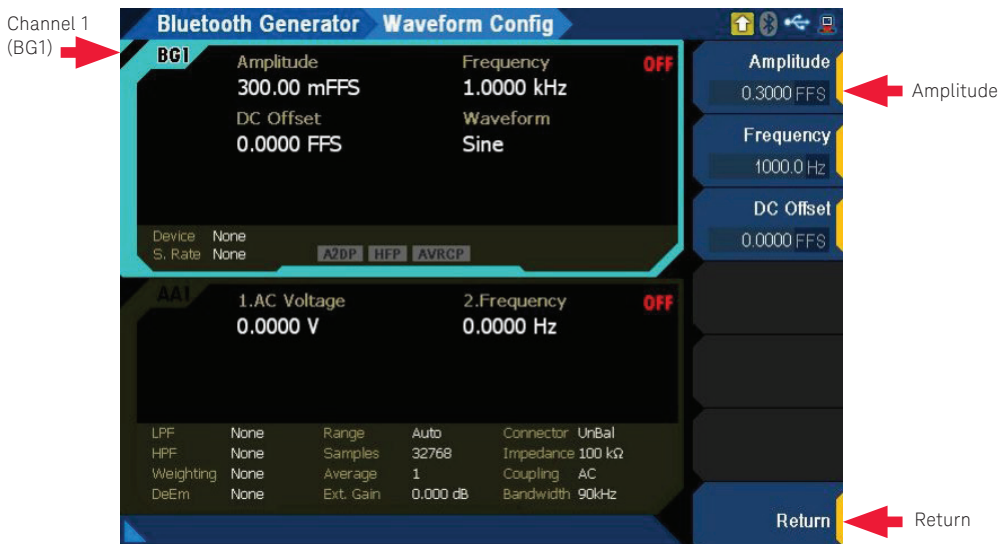

Figure 7. Setting the *Bluetooth* Generator
1. Configure the *Bluetooth* audio generator channel 1 (BG1) to generate a 300 mFFS, 1 kHz tone as shown in Figure 7.